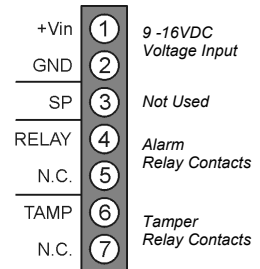

Figure 2: Wiring Connections
6. **Connect the wires** to the terminal block – see Figure 2.